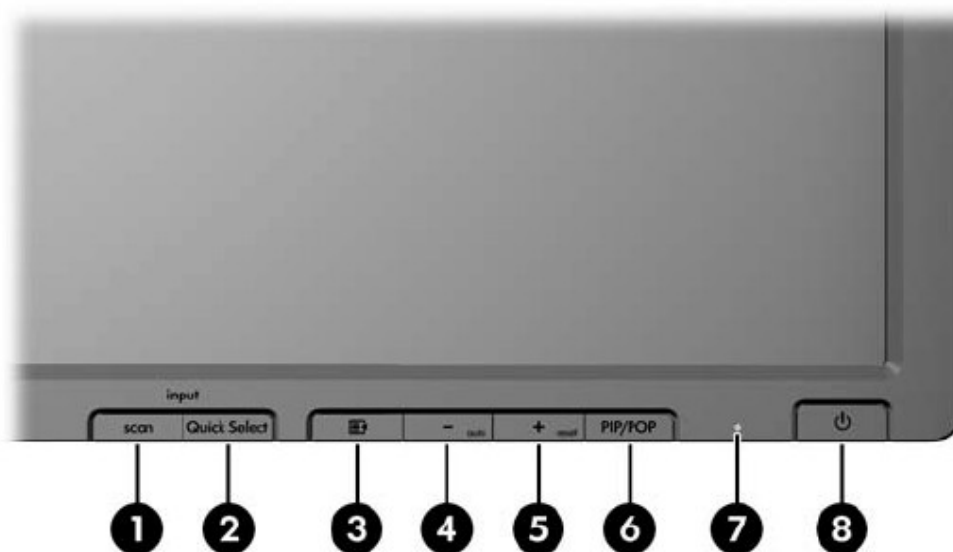

Figure 55 : HP LP2475W Control panel
The control panel of the HP LP2475W colour monitor includes (See Figure 55) :
- If the screen is black, check the contrast and brightness controls. Refer to the description of the front panel on Figure 55.
- Press the **Menu** button on the monitor front panel (refer to Figure 55) to display the OSD Menu (see Figure 57).